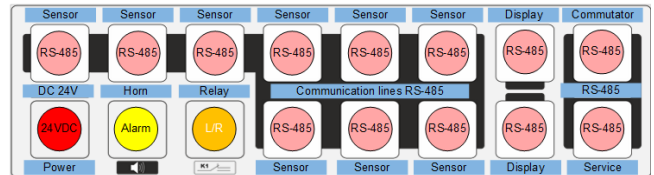

Figure 7. The MU-150 / MU-150E / MK-140 unit's connectors "RS-485" / "Sensor" for the PS-150(RK) connection
The cable from the PS-150(RK) is connected to any of the connectors of the MU-150 / MU-150E / MK-140 units marked "RS-485" / "Sensor" (see Fig. 7).